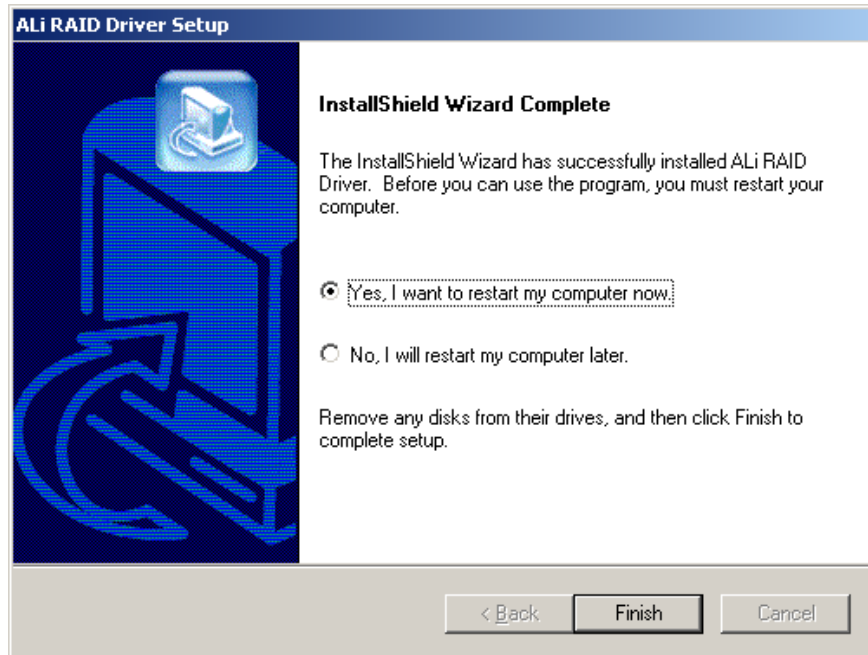

Figure 6-29: InstallShield Wizard Complete Screen
Step 7: Once the installation is complete, the **InstallShield Wizard Complete** screen appears (**Figure 6-29**).